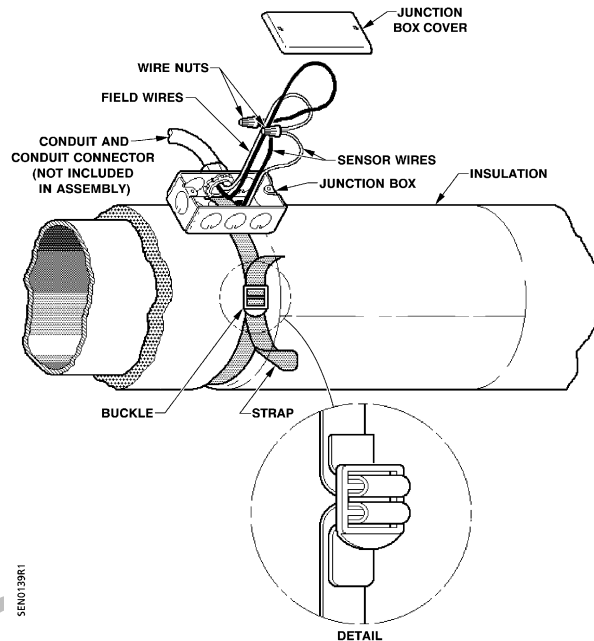

Figure 3. Attaching the Junction Box and Connecting the Sensor Wires.
10. Thread the strap through the junction box and attach the junction box to the pipe. See Figure 3.
12. Using two of the wire nuts provided, connect the sensor wires to the field wires. See Figure 3.